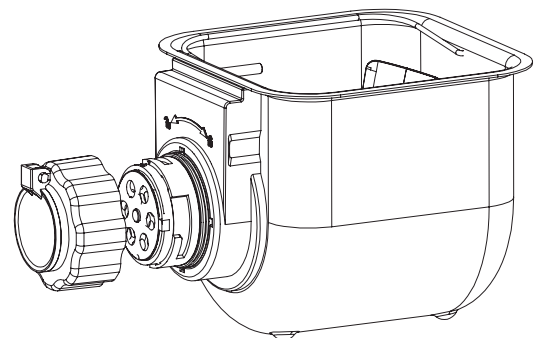

Fig. 6
6. Install the Extrusion discharge cap as shown in Fig.6. Twist to the closed position to lock into Place. Note the Closed/Open markings. Make sure flap on the cap is snapped closed during cooking cycle.